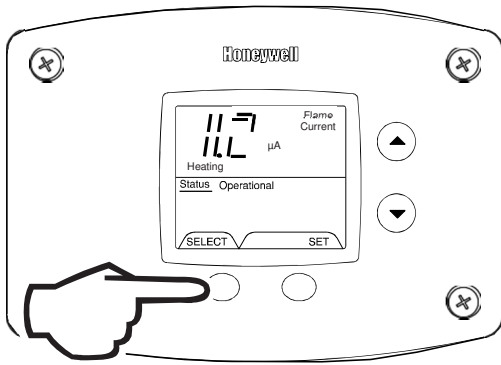

Fig. 48
3. Press the 'Select' button until a number value is displayed with 'Flame Current' to the right of the number. The value displayed is in microamps (μA). (Fig. 48)